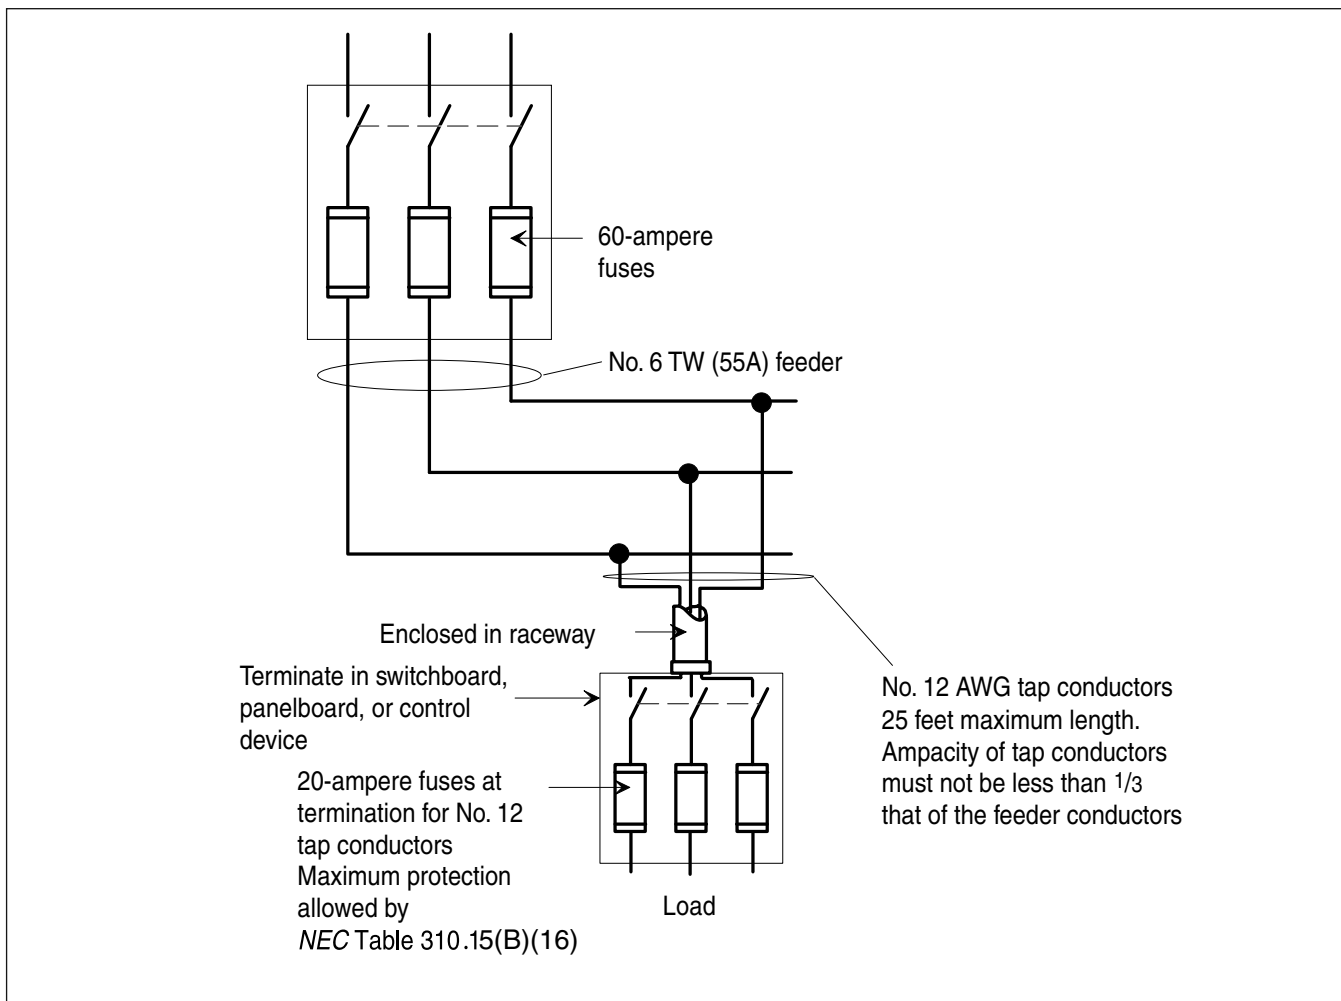

Figure 6-7: Summary of NEC 25-foot tap rule
NEC Section 240.21(B)(2)(1) requires that feeder tap conductors must not be over 25 feet in length and the ampacity of the tap conductor must be not less than one-third that of the feeder conductor. Therefore, answer C ($33\frac{1}{3}\%$) is the correct answer. See Figure 6-7 on the next page.